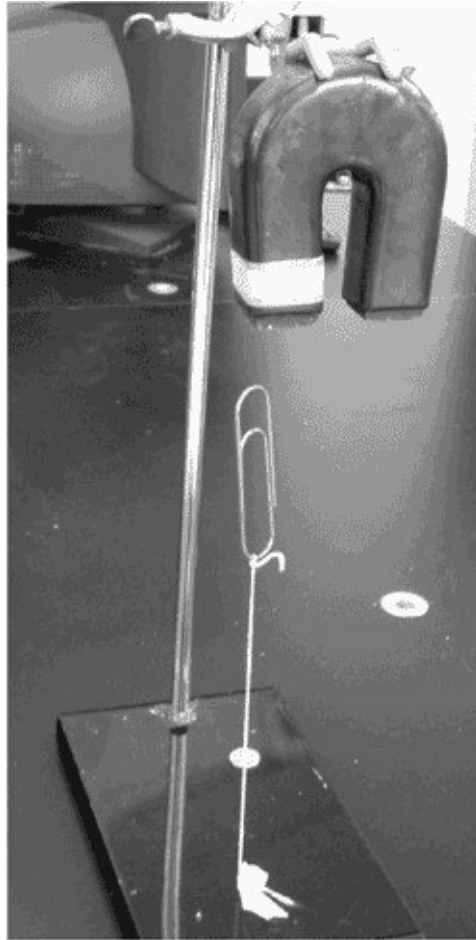

Figure 104-1 Photo by S. Grabowski.
3. Bring the paper clip near the overhead magnet. It should be close enough for the magnetic field to exert a force on the clip, as shown in Figure 104-1.